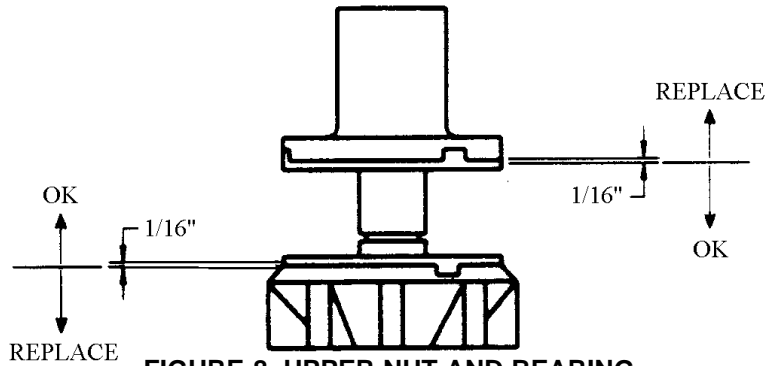

FIGURE 8. UPPER NUT AND BEARING
**The bearings are 3/32" thick. When they wear below 1/16" they should be replaced. Bearings to be inspected for wear during quarterly maintenance. See Figure 8.**